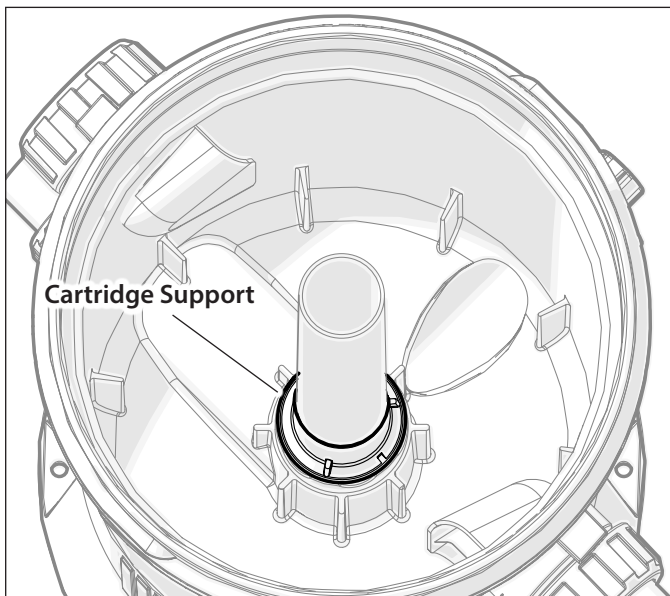

Figure 17. Cartridge Support
8. Using a new or cleaned cartridge, place the cartridge into the filter tank. Be sure that the filter cartridge is correctly seated on the cartridge support at the bottom spigot of the filter main body (Figure 17).